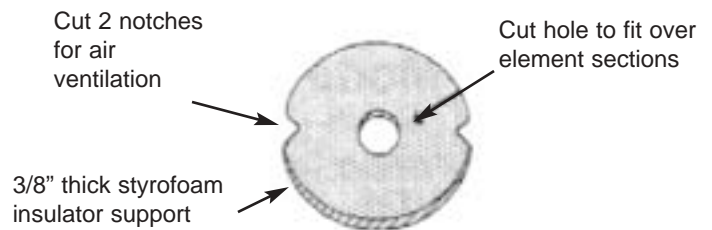

Figure 5 - Styrofoam spacer (3 or more needed)
Step 11. Make some styrofoam spacers to slip over some of the antenna elements. Cut the spacers for a diameter slightly less than the inside diameter of the radome pipe. Space them out to evenly support the antenna when you place it in the fiberglass or PVC radome cover. The spacers should be attached to the mid-point of the element with a small amount of epoxy or hot glue. See figure 5.